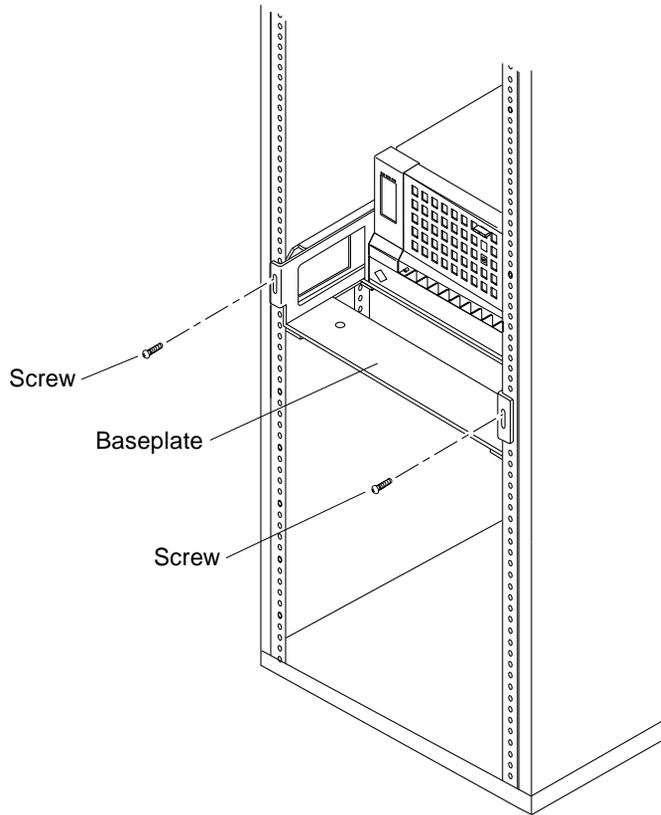

FIGURE 4-3 Installing Screws to Secure the Baseplate to the Side Brackets
- 4. Tighten the screws in the front of the rack (FIGURE 4-3).**